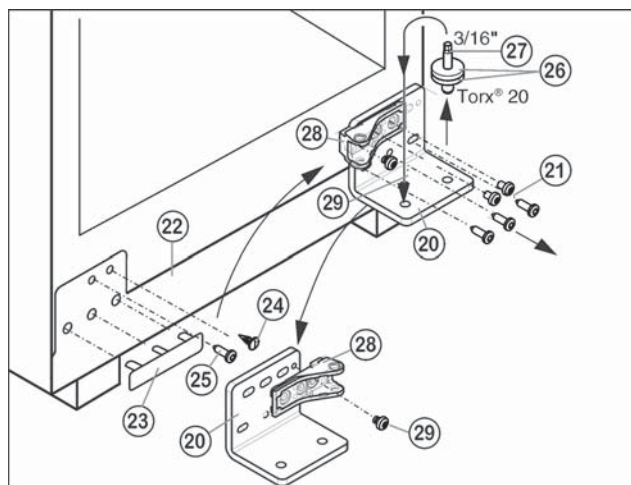

Fig. 21
► Unscrew bearing bracket *Fig. 21 (20)* together with bearing pin *Fig. 21 (27)* (3 x Torx 25) *Fig. 21 (21)*. When doing so, hold panel *Fig. 21 (22)* steady so that it does not drop.
► Carefully lift off the cover on the handle side *Fig. 21 (23)* and the plug *Fig. 21 (24)* and move them to the opposite side.
► Unscrew screw *Fig. 21 (25)* and move it to the opposite side. When doing so, hold panel steady so that it does not drop.
- Unscrew bearing part Fig. 21 (28), turn it 180° and tighten Fig. 21 (29).
- Remove the bearing pin Fig. 21 (27), move it to the other side along with the bearing disc and bearing ring Fig. 21 (26) and secure **tightly to 3 lb-ft (4 Nm)**.
- Using a cordless screwdriver if necessary, tightly secure Fig. 21 (21) the bearing bracket Fig. 21 (20) on the new hinge side again **by applying a screw torque of 3 lb-ft (4 Nm)**. First fit the lower center screw, then the other screws.
- Ensure that the bearing discs Fig. 21 (26) are on the lower bearing pin Fig. 21 (27).
- Position the door from above onto the bearing pins below Fig. 21 (27).
- ▶ Unscrew center screw on lower part of bearing bracket Fig. 21 (20).
- ▶ Align the doors flush with the appliance housing using the two oblong holes in the lower bearing bracket Fig. 21 (20) as a guide if needed.